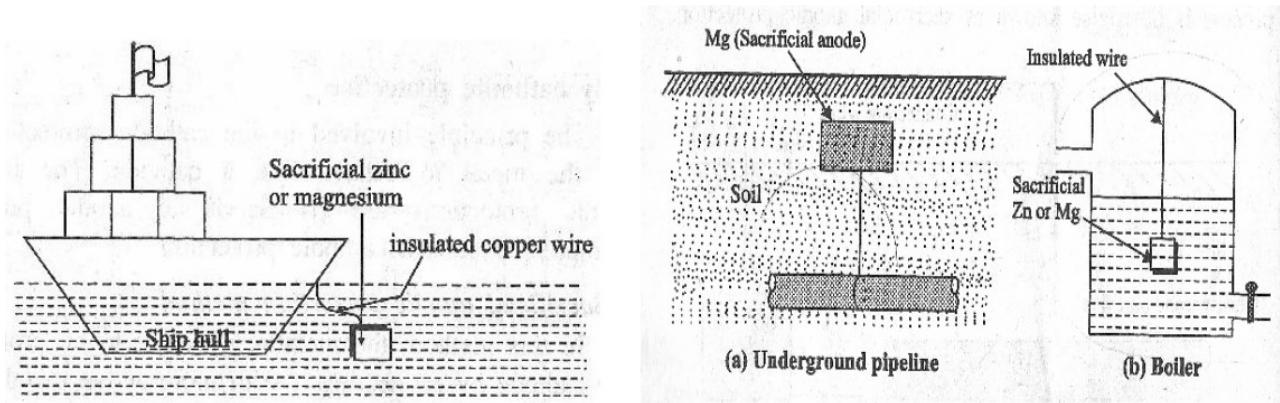

Fig. 3.6. Applications of sacrificial anodic protection.
- This method is used for the protection of ships and boats (fig 3.6). Sheets of Mg or Zn are hung around the hull of the ship Zn or Mg will act as an anode compared to iron (the ship or
- (ii) Protection of underground pipelines, and cables from soil corrosion (Fig. 3.6(a)).
- (iii) Insertion of Mg sheets into the domestic water boilers to prevent the formation of rust (Fig. 3.6(b)).